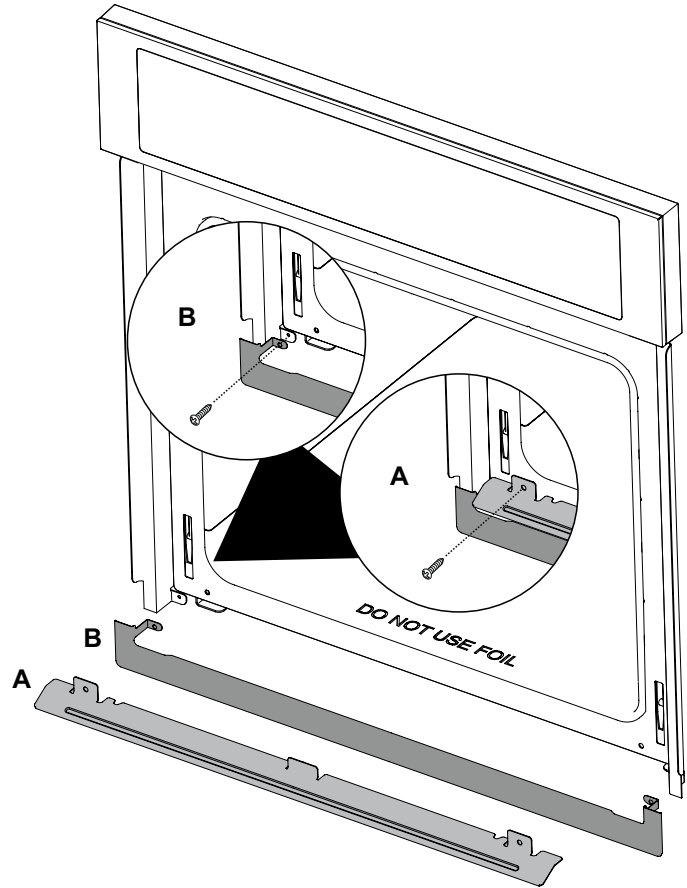

Figure 9
A. Place the color matched trim (B) in place as shown in Figure 9. Line up screw locations and attach both ends.
B. Place the air diverter (A) in place as shown. Line up screw locations and attach both ends.